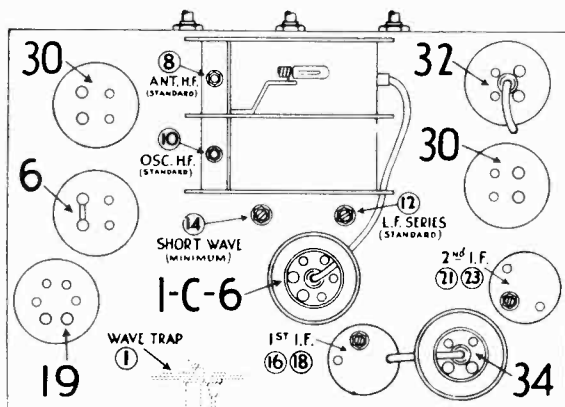
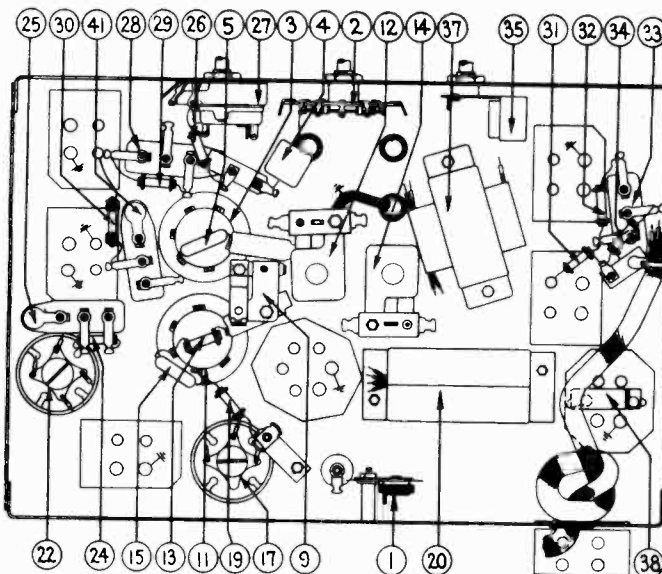

FIG. 2—Locations of Compensating Condensers
FIG. 4—Bottom View of Chassis
Adjustments are then made in the following order; positions of all compensators (except number 9 visible in Fig. 4) are shown in Fig. 2.
K. C., adjust each of the I. F. compensating condensers in turn, to give maximum response in the output meter. If the needle on the meter goes off scale, turn back the attenuator on the signal generator. The two pairs of I. F. compensating condensers are located one pair at the top of each of the two I. F. transformer shields. These are the two metal "cans" near the rear corner of the chassis. Each of the I. F. transformers has a dual compensating condenser mounted at its top, and accessible through a hole in the top of the coil shield. In the dual compensators, the Primary circuit is adjusted by turning the screw; the Secondary circuit is adjusted by turning the hex-head nut. The condenser numbers, referring to Figs. 2 and 3 are ⑩, ⑪, ⑫ and ⑬.
Replace the grid clip upon the Detector-Oscillator tube (Type 1C6). Connect the output leads from the 024 signal generator directly to the antenna and ground terminals of the receiver. Set the Wave-Band Switch of the receiver to the standard broadcast band (left position) and the Station Selector at the low frequency (600 K. C.) end. Adjust the Wave Trap condenser to give MINIMUM response to a 460 K. C. signal from the signal generator. The Wave Trap ① is located at rear and underneath the chassis, and is shown in Figs. 2 and 4. It is reached from the rear of the chassis, by inserting the fibre wrench through the hole near rear center of sub-base.
H. F. end: Set signal generator at 1500 K. C. and dial at 150 (lower scale). Now adjust condensers ⑧ (Antenna) and ⑩ (Oscillator H. F.) to get maximum response. These condensers are located on the tuning condenser assembly and visible in Fig. 2.
L. F. (series): Turn dial to 60 and set signal generator at 600. Adjust condenser ⑫ for maximum output. This is reached from the top, through hole in chassis at rear of tuning condenser (see Fig. 2).
of set. Turn the wave band switch to the right, and the 091 signal generator "on." H. F. or maximum: Turn the dial of the set to about half way between 14 and 15 megacycles (top scale) and you should there pick up the 4th harmonic (14.4) of the 3.6 M. C. signal. Adjust the S. W. (maximum) compensator ⑨ (see Fig. 4) to give maximum response in the output meter. This compensator is reached from underneath the chassis.
S. W. (minimum): Turn dial of set to a little more than 7 megacycles at which point the second harmonic of the signal generator (7.2 M. C.) should be heard. Adjust condenser ⑭ (S. W. series) for maximum response. This condenser is reached from above, through hole in top of chassis (see Fig. 2).